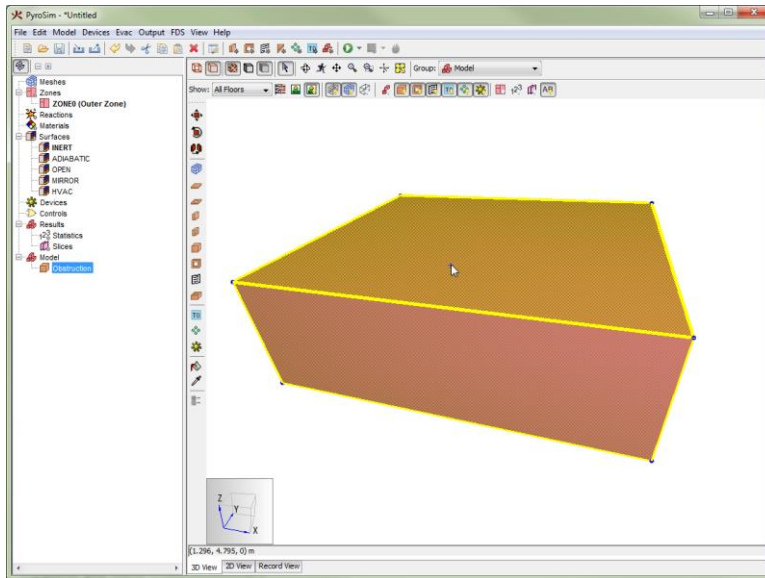

Figure 8.29. A highlighted face handle
3. Hover the cursor over the desired handle. If the handle is a dot, it will turn yellow. If the handle is a face, the entire face will turn yellow as shown in Figure 8.29.